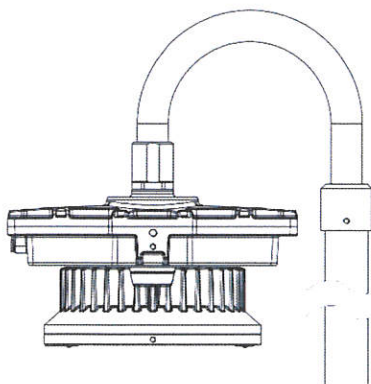

Figure 5
- Tighten tube locking setscrew to conduit, 1.0 N-m. (Figures 5 and 6)